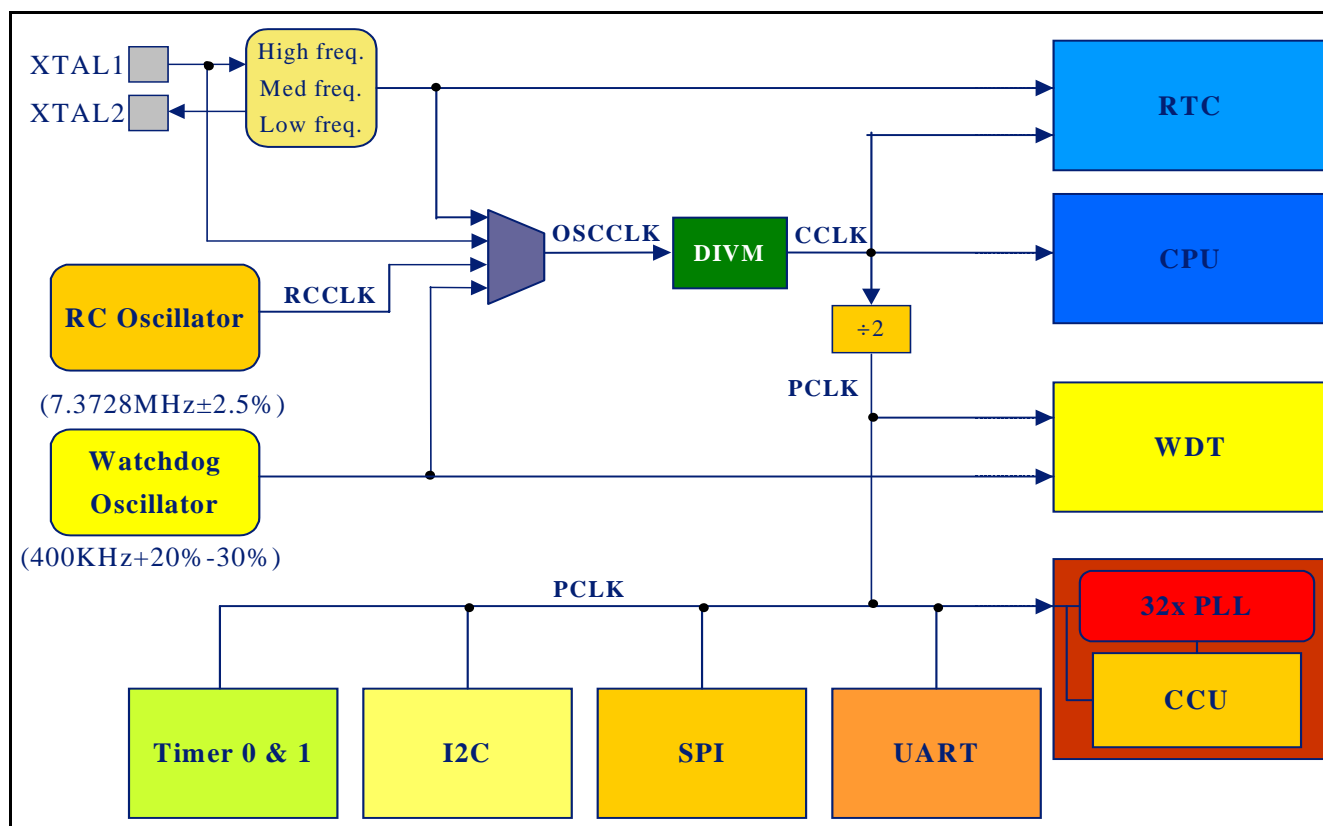

Figure 5: Block diagram of oscillator control
- **OSCCLK** - Input to the DIVM clock divider. OSCCLK is selected from one of four clock sources (see Figure 5) and can also be optionally divided to a slower frequency (see section "CPU Clock (CCLK) Modification: DIVM Register"). **Note:** f_{OSC} is defined as the OSCCLK frequency.